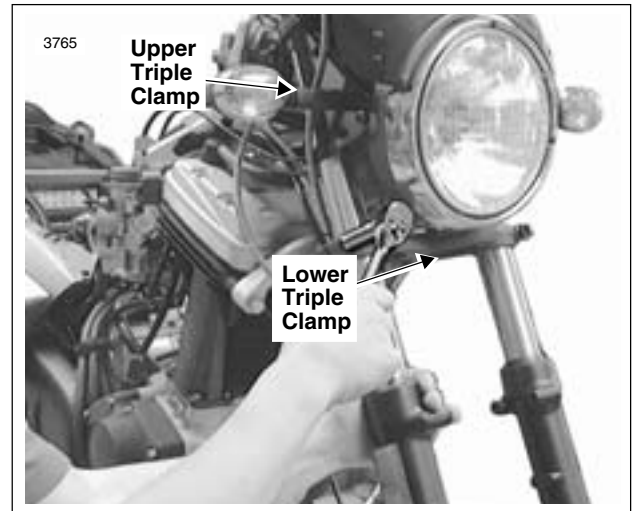

Figure 2-88. Pinch Screws
3. See Figure 2-88. Align and secure fork tubes.